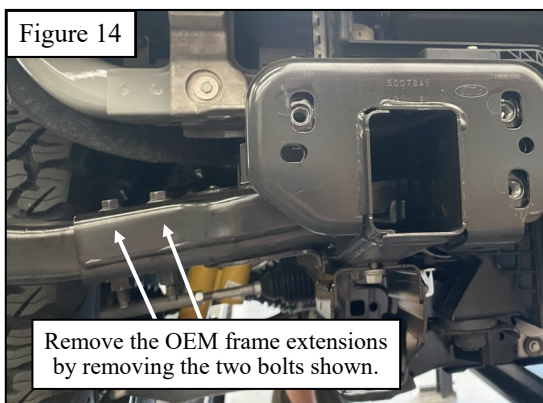

Figure 14
15. Locate and remove the OEM frame extensions. See **Figures 14 & 15** for reference.